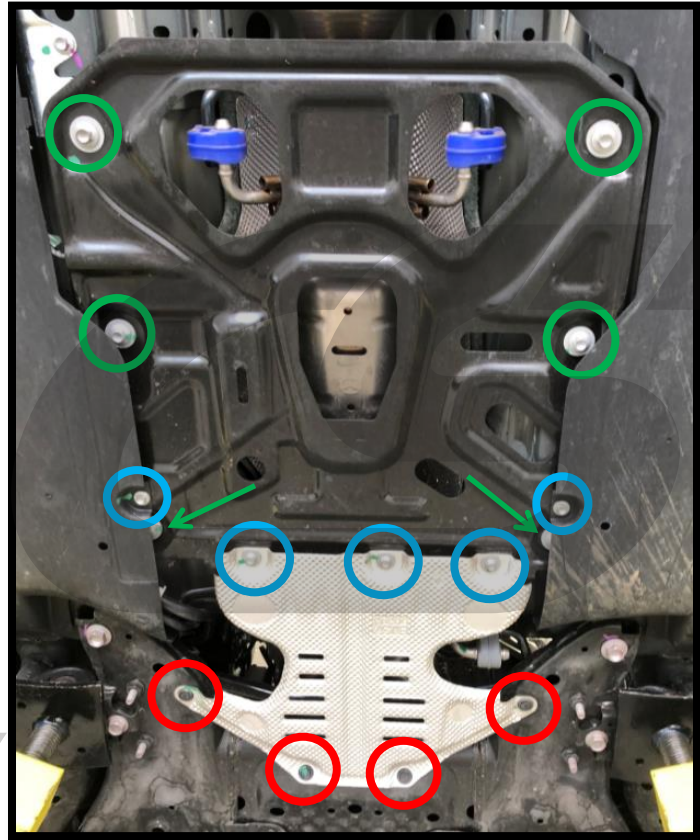

Figure 3a
- a) Remove the four push clips from the silver shielding underneath the vehicle. Shown circled in red in Figure 3a.
- b) Remove the five 10mm bolts from the shielding underneath the vehicle. Shown circled in blue in Figure 3a. The silver shielding can then be removed.
- c) Remove the six 12mm bolts from the underbody brace. Shown circled in green in Figure 3a. Two of these bolts are hidden and are shown with the green arrows.